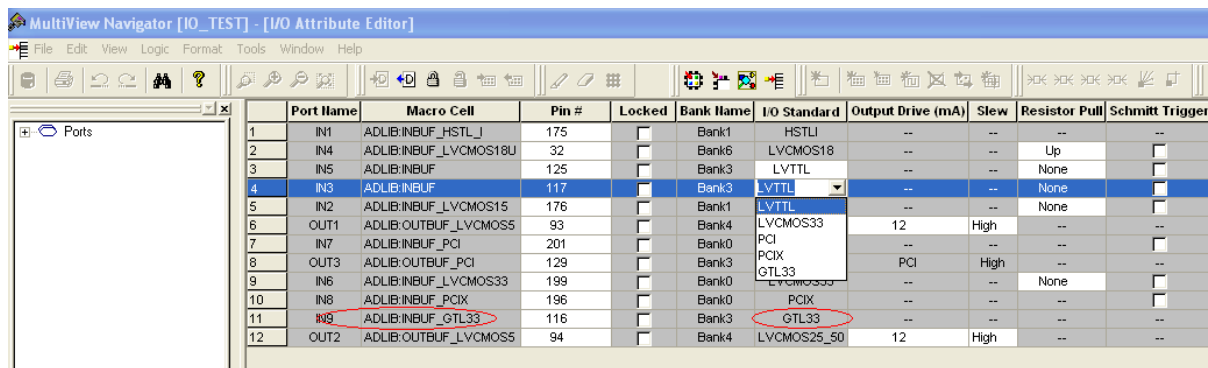

Figure 9-6 • Assigning a Different I/O Standard to the Generic I/O Macro
- Users will need to use the I/O Attribute Editor in Designer to change the default I/O standard if needed (see Figure 9-6 on page 259).
- The I/O standard of technology-specific I/O macros cannot be changed in the I/O Attribute Editor (see Figure 9-6).